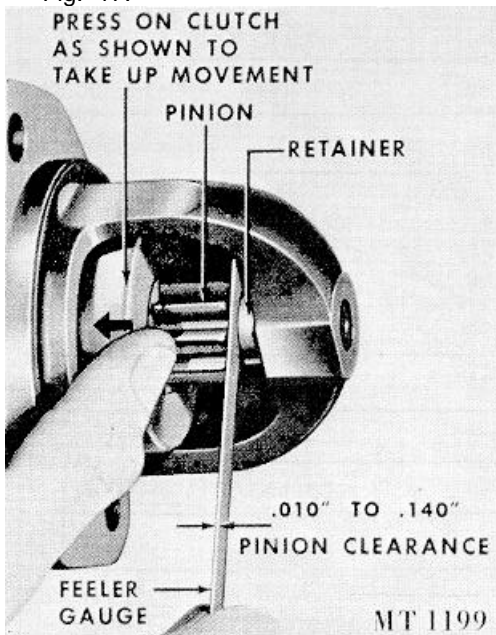
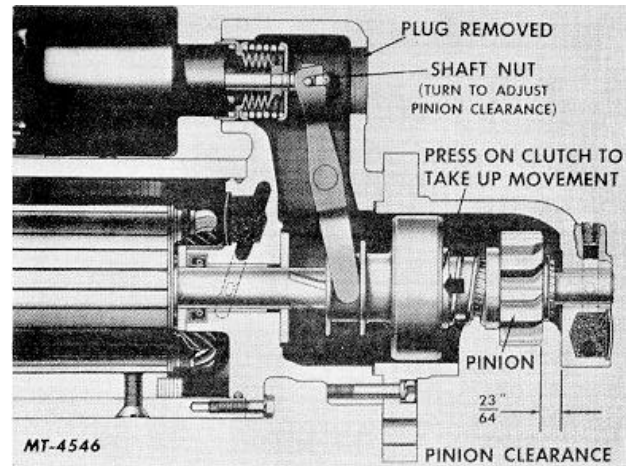
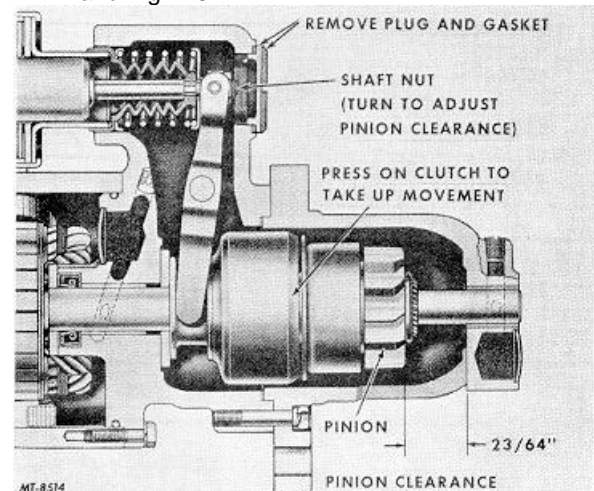

Fig. 16. Checking Pinion Clearance on Motors with the Intermediate Duty Clutch
Fig. 17. Checking Pinion Clearance on Motors with the Heavy Duty Sprag Clutch
Fig. 18. Checking Pinion Clearance on Motors with DR-250 Drive
- a. Intermediate Duty Clutch -- .010 to .140 inch, Fig. 16.
- b. Heavy Duty Clutch -- 23/64 inch, Fig. 16 and Fig. 17.
5. Clearance is adjusted by removing plug and gasket on rear housing and turning the adjustment nut, Fig. 17 and Fig. 18.